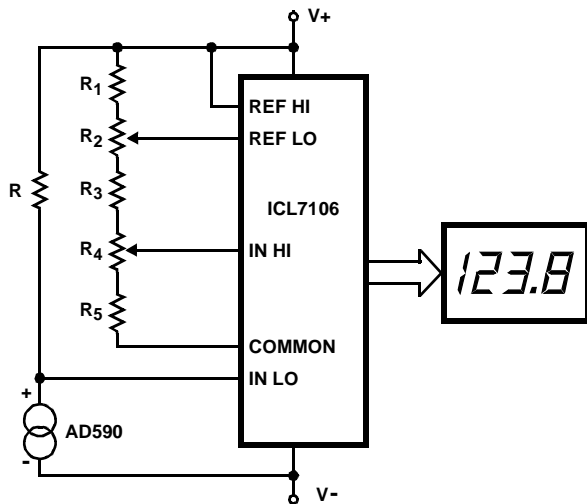
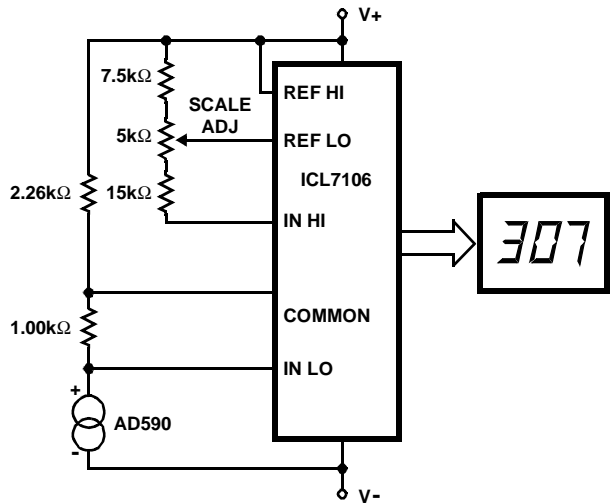
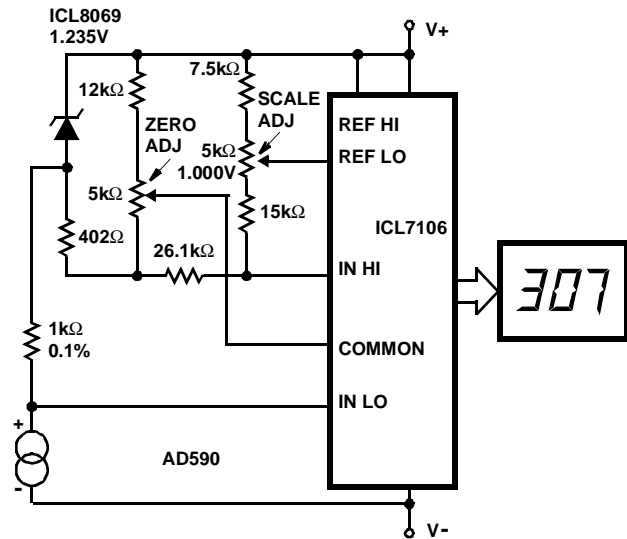

FIGURE 11. BASIC DIGITAL THERMOMETER, CELSIUS AND FAHRENHEIT SCALES
FIGURE 12. BASIC DIGITAL THERMOMETER, KELVIN SCALE
FIGURE 13. BASIC DIGITAL THERMOMETER, KELVIN SCALE WITH ZERO ADJUST
199.9°F (93.3°C) limited by the number of display digits. See Figure 11 and notes below.
The Kelvin scale version reads from 0 to 1999°K theoretically, and from 223°K to 473°K actually. The 2.26kΩ resistor brings the input within the ICL7106 VCM range: 2 general-purpose silicon diodes or an LED may be substituted. See Figure 12 and notes below.
This circuit allows “zero adjustment” as well as slope adjustment. the ICL8069 brings the input within the common-mode range, while the 5kΩ pots trim any offset at 218°K (-55°C), and set the scale factor. See Figure 13 and notes below.
**Notes for Figure 11, Figure 12 and Figure 13**